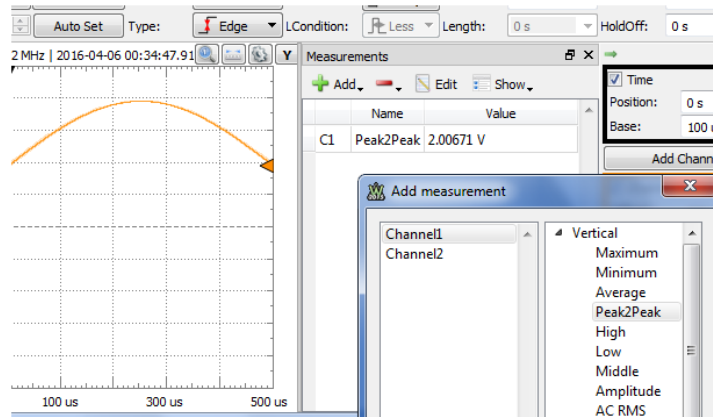

Fig 8. Oscilloscope Measurement feature, showing Peak2Peak amplitude
- 17) Construct the circuit shown in Figure 8. Note the placement of the 6 pin header on the breadboard, which is where we can attach the properly colored leads from the Analog Discovery. Also note that for improved noise reduction, we are connecting a black (ground) Analog Discovery wire to our breadboard as well.